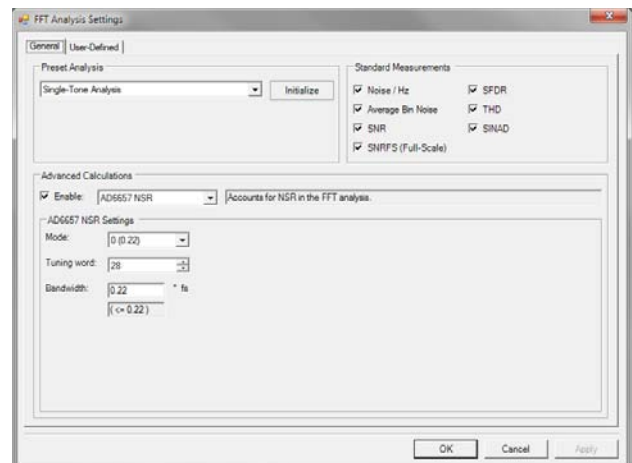

Figure 17. VisualAnalog, FFT Analysis Settings
7. Configure the settings in the FFT Analysis to match the settings selected for the NSR in the SPIController (see Figure 17).